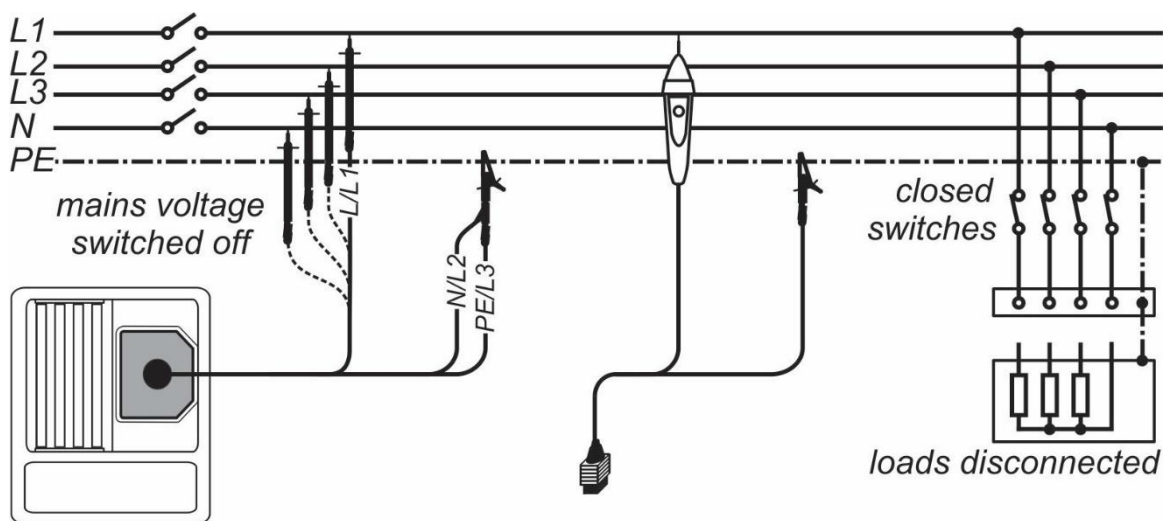

Figure 5.6: Connection of 3-wire test lead and tip commander
- ❑ **Connect** test cable to the instrument and to the item to be tested (see Figure 5.6).